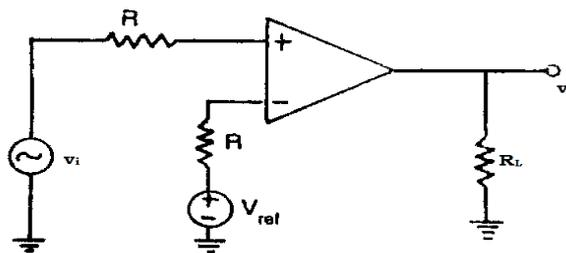

Fig. 3.18 Non-inverting comparator
- The circuit of Fig.3.18 is called a non-inverting comparator.
→ The basic comparators of Fig.3.18 and 3.21 can be used as a zero crossing detector provided that V_{ref} is set to zero.